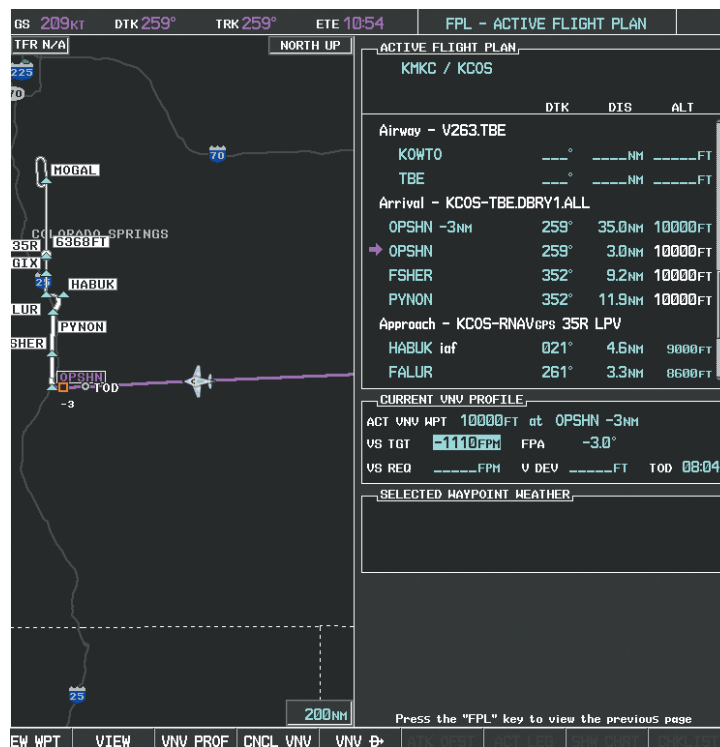

Figure 5-139 Adjusting the Descent
- a) Select the **VNV PROF** Softkey to place the cursor in the target vertical speed field (VS TGT) as shown in Figure 5-139.